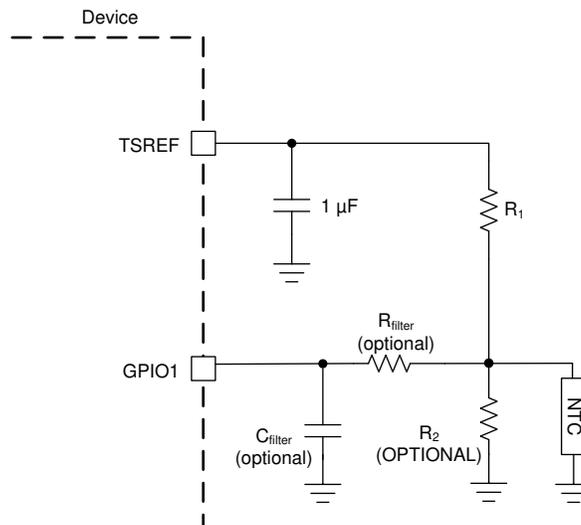

Figure 8-5. Thermistor Connection
Figure 8-5 shows the thermistor circuit when GPIO is enabled for thermistor measurements. MCU ensures TSREF is enabled by setting $CONTROL2[TSREF_EN] = 1$ and settled before taking the measurement value.
- R1 is the pull-up resistor as shown in Figure 8-5 with the assumption the R2 is not used